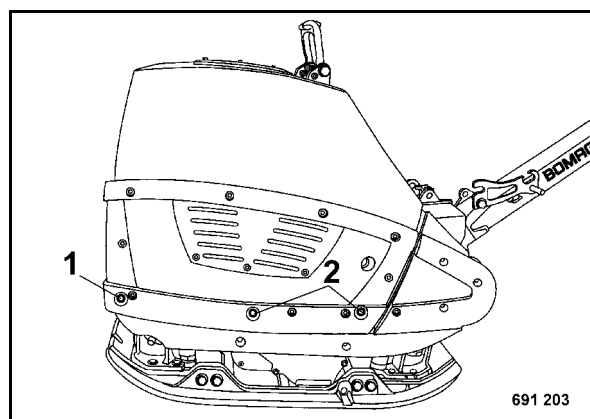

Fig. 74
- Loosen the engine hood fastening 1 (Fig. 74) on both sides and remove the hood fastenings on both sides.